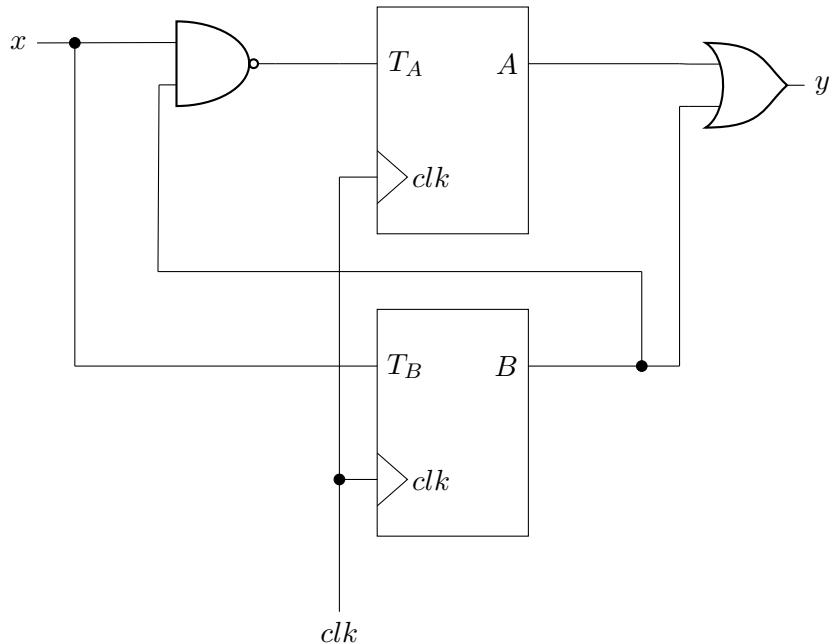

Figure 6.7:
7. Two T-flip flops are interconnected as shown in Fig. 6.7. The present state of the flip flops are: $A = 1, B = 1$. The input x is given as 1, 0, 1 in the next three clock cycles.